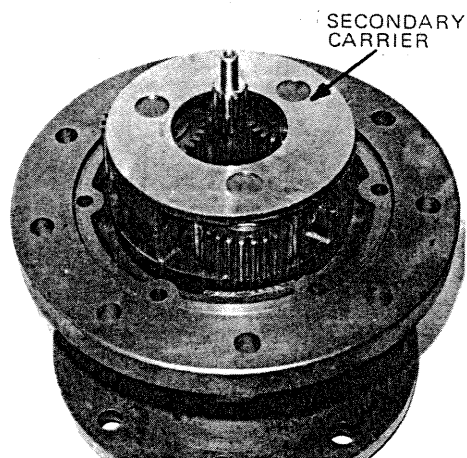

Figure 7 Assemble input shaft & secondary carrier
◀ **STEP 7** Assemble the splined end of the input shaft down into spindle, (Figure 7).
**STEP 8** Assemble secondary carrier splines over splined end of spindle, (Figure 7).